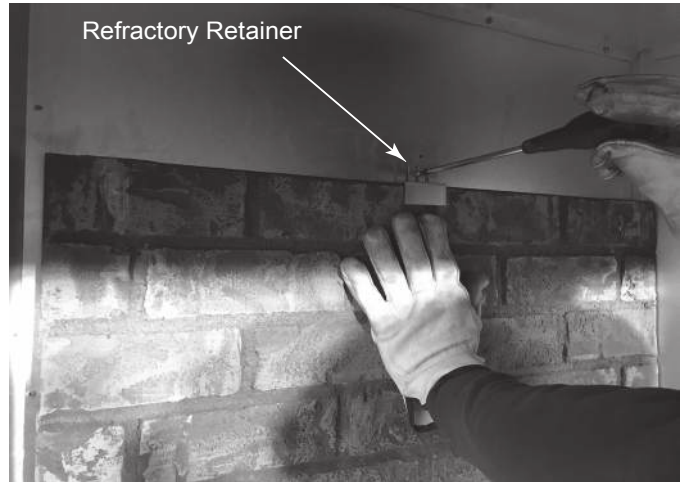

Figure 11.8
- Set Back Refractory in place and secure with (1) refractory retainer. See Figure 11.8.